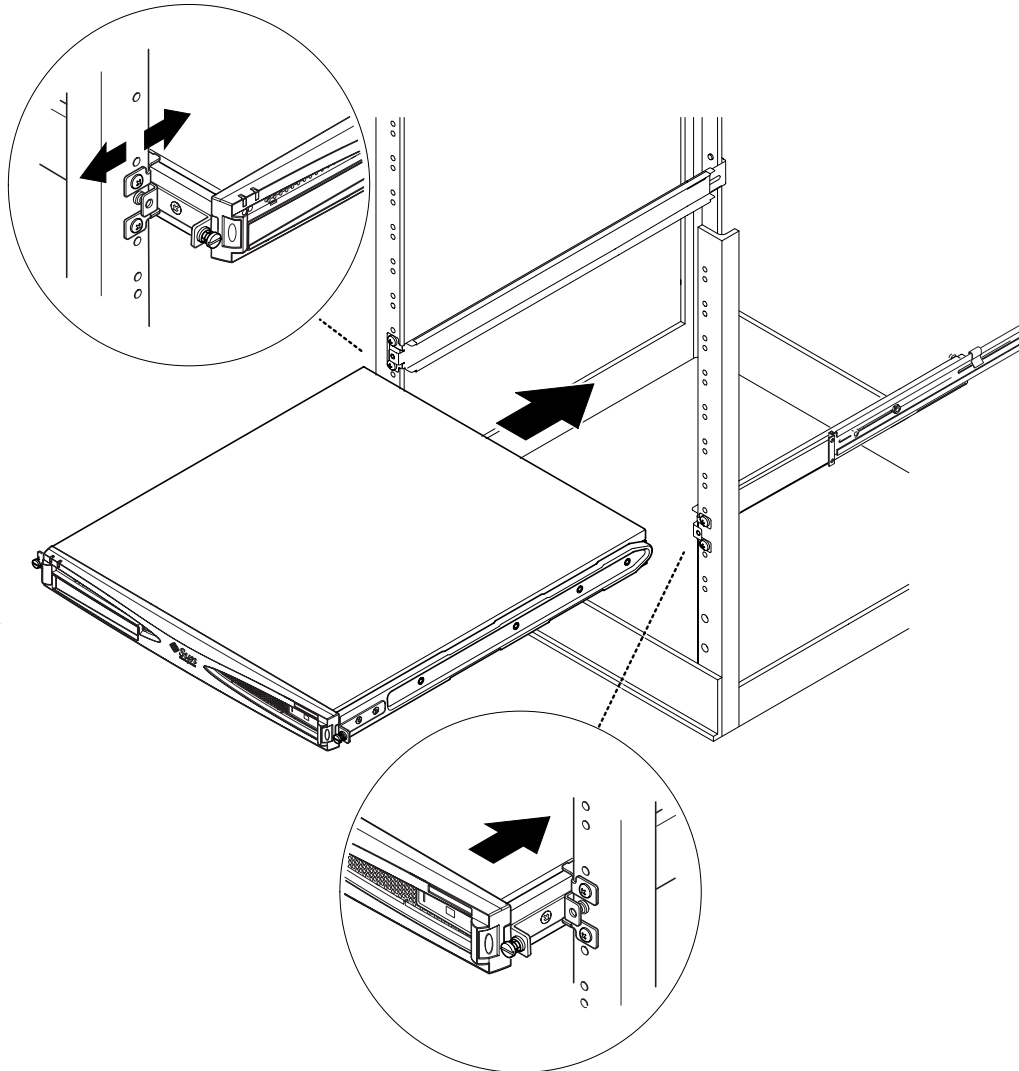

FIGURE 5-7 Sliding the Server Into a Standard 19-Inch Rack
7. Slide the server into the rack (see FIGURE 5-7).